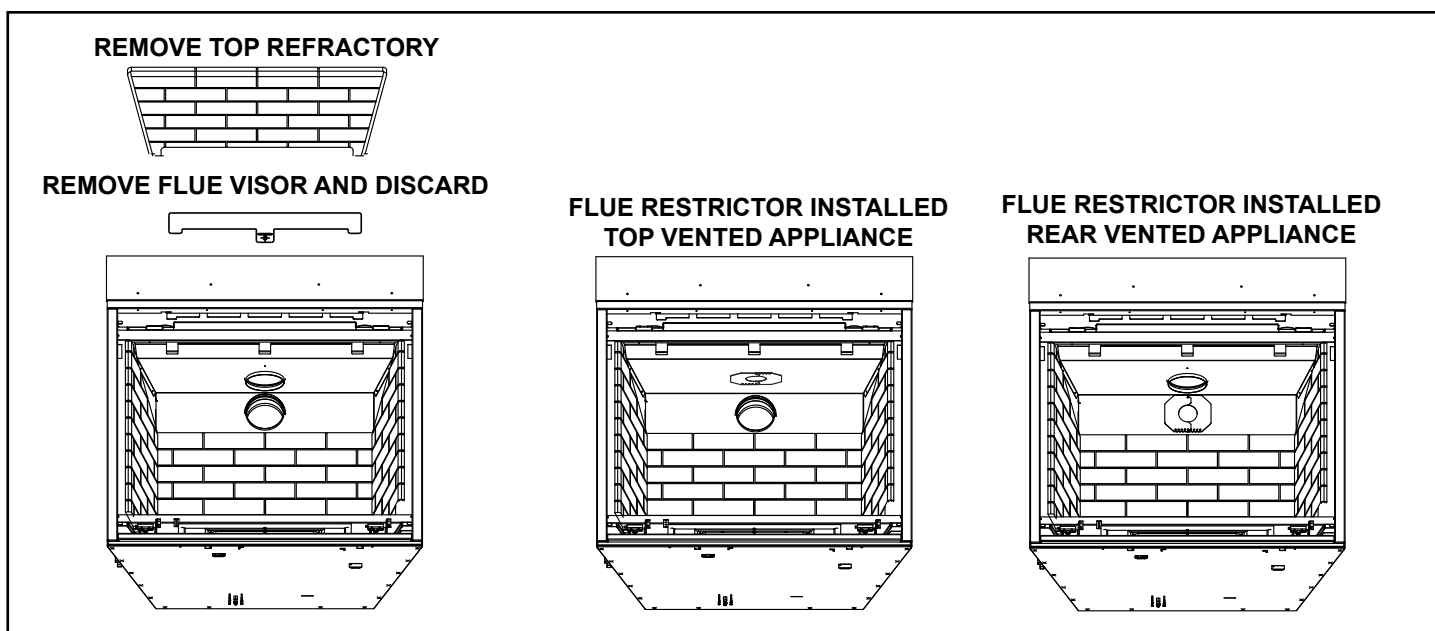

Figure 4.15
1. Remove the top piece of refractory, if already installed. See Figure 4.15.
2. Remove the flue visor and discard. See Figure 4.15.
5. Center the two flue restrictor pieces on the vent at the setting selected in step 4 and secure in place by using two self-tapping screws. See Figure 4.15.